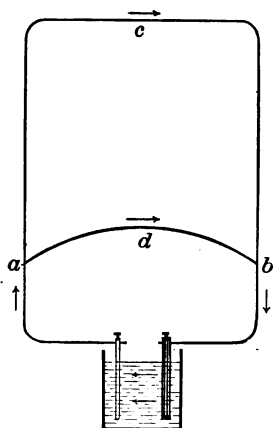

FIG. 188
**289. Divided Circuits; Shunts.** — A circuit may be divided (as at *a* and *b*, Fig. 188) so that a part of the current may pass through one branch (*acb*) and the rest through the other (*adb*). When a circuit is divided, the amount of current passing over each of the branches varies *inversely as their resistances*. In other words: